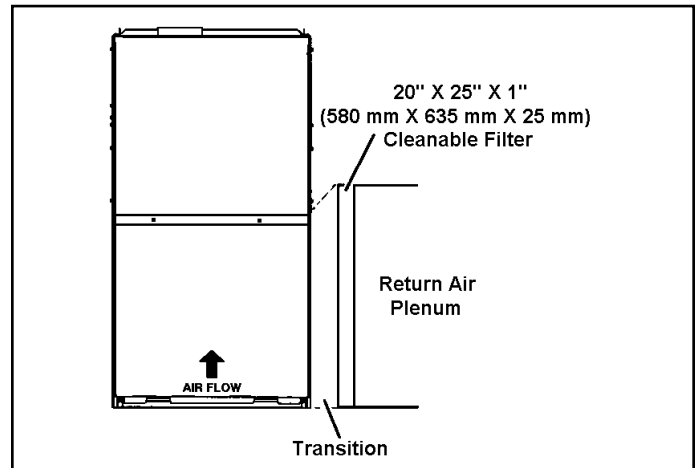

Figure 8. Single Side Return Air (with transition and filter)
1. Single side return air with transition to accommodate 20 x 25 x 1 in. (508 x 635 x 25 mm) cleanable air filter. (Required to maintain proper air velocity.) See Figure 8.